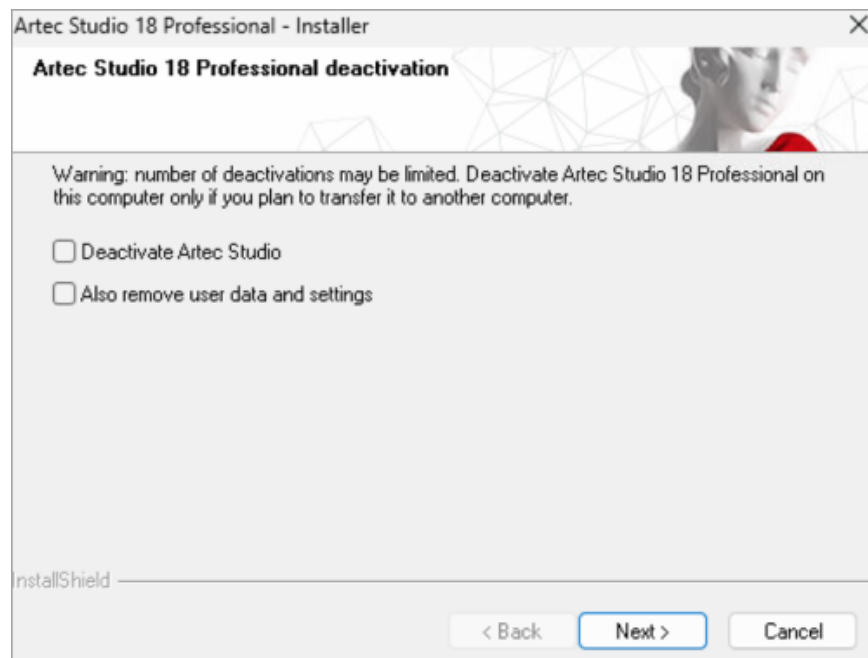

Figure 44: Deactivation of Artec Studio.
3. The dialog shown in Figure 44 will appear. Select the *I understand. Deactivate Artec Studio* checkbox.